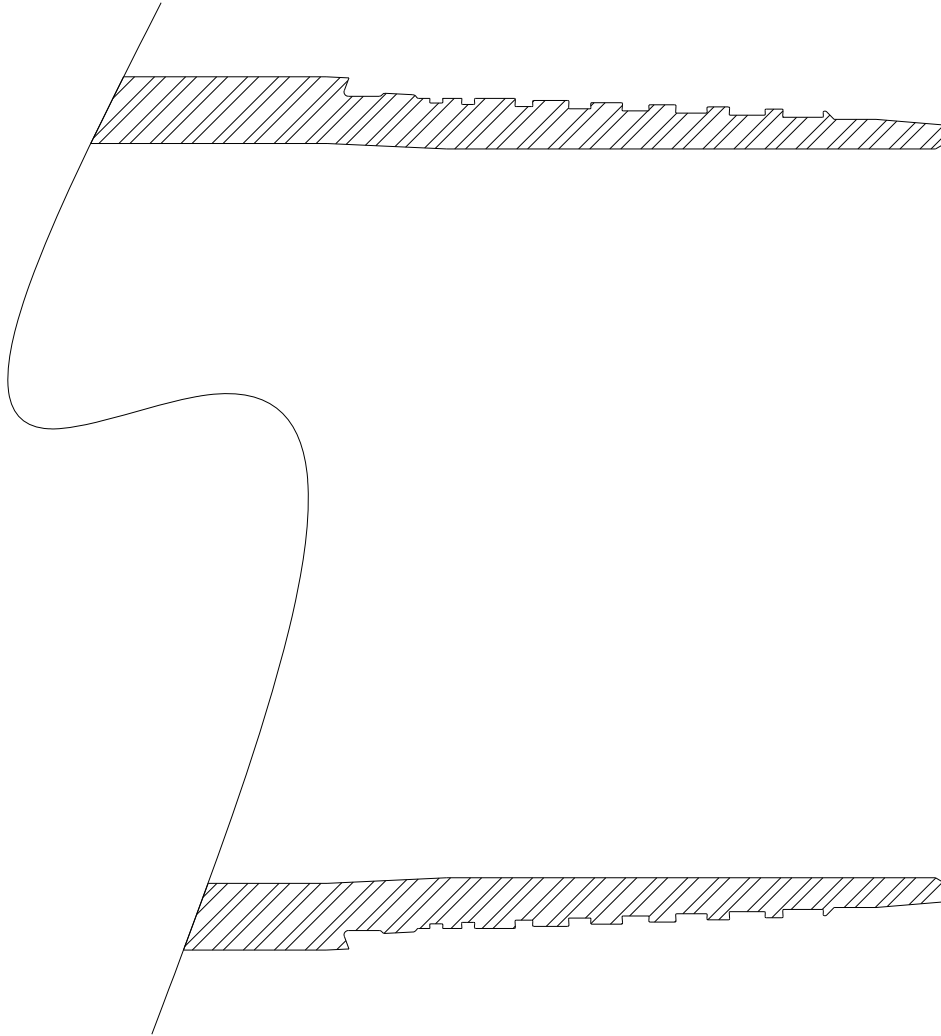

Fig. No. 3: Pin Connector
**PIN CONNECTOR:** A male thread connector or externally threaded end of a pipe or accessory. (See Figure No. 3).